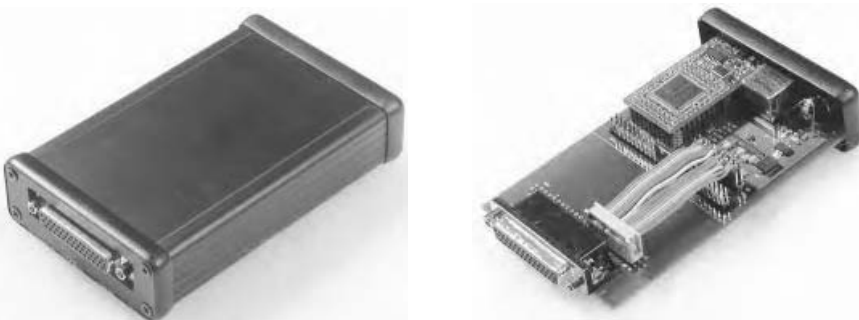

Figure 29.3 The Gluion.
artist Jens Brand, and software/hardware hybrid instruments for Richard Barrett (UK/Germany), Annette Begerow (Germany), Steve Coleman (USA), Axel Dörner (Germany), Walter Fabeck (UK), Sabine Schaefer (Germany). In 2004 he designed the "Gluion," a general purpose, configurable interface between sensors and computers (see figure 29.3).
The I-Cube from Infusion Systems and Eric Singer’s MidiTron are less expensive, computer-configurable, sensor-to-MIDI interfaces that can control MIDI devices directly or can connect to a computer for further processing of the raw sensor data. CH Products manufactures an inexpensive joystick development circuit board that lets you read thirty-two switches and ten analog channels through your USB port (see figure 29.2). Sukandar Kartadinata’s “Gluion” is a high-speed Ethernet interface that can be configured for a wide range of sensors (see figure 29.3). Similar systems are available from a number of other sources. Prices range from under one hundred dollars to several thousand dollars. Some of these interfaces are bi-directional, allowing you to send control information through them to external relays, motors, etc., as well as receive data from various sensors.